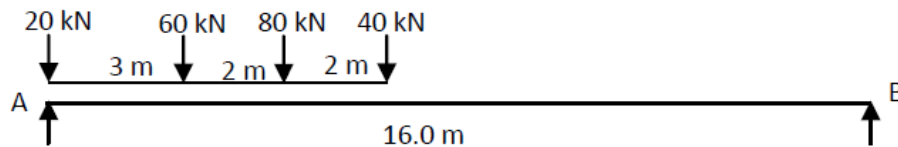

Figure 3.4
6. A train of concentrated loads shown in Figure 3.4. The loads moves from left to right on a simply supported girder of span 16.0 m. Determine absolute maximum bending moment.